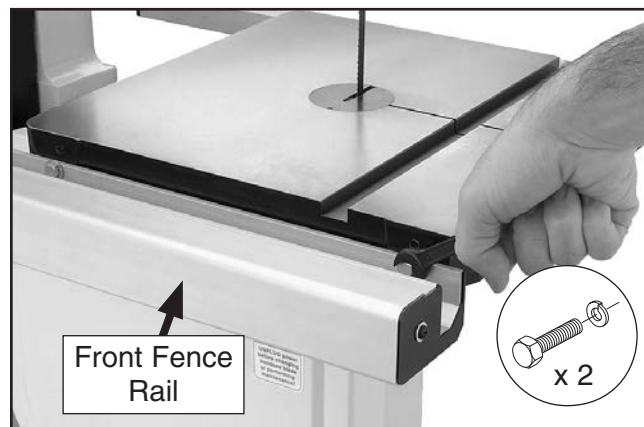

Figure 17. Installing front fence rail.
14. Attach the front fence rail shown in **Figure 17**, with (2) 1/4"-20 x 3/4" hex bolts and 1/4" flat washers.